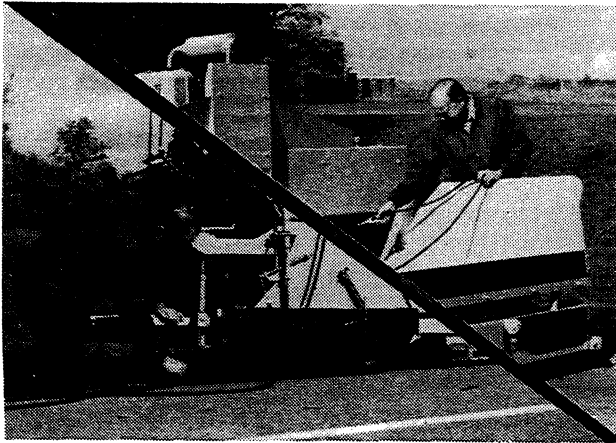

Figure 4-8 – Spraying Fuel Oil
1. Raise screed and move out left and right extensions. Lubricate screed inserts with fuel oil and run the extensions in and out several times. Make sure end gate depth screw handles are locked after moving extensions to the desired width. Spray the hopper, augers, auger gates and the bottom of the screed plate with fuel oil as shown in Figure 4-8.